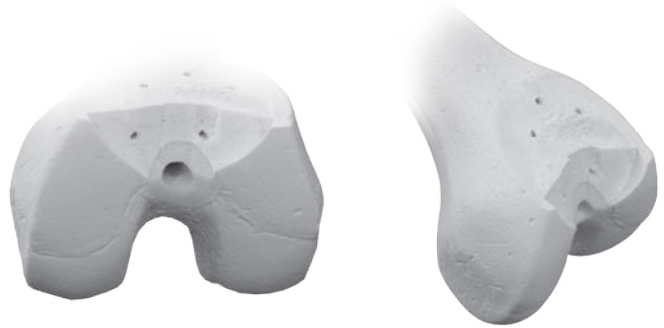

Fig. 42
- The bone preparation should appear as illustrated (Fig. 42).